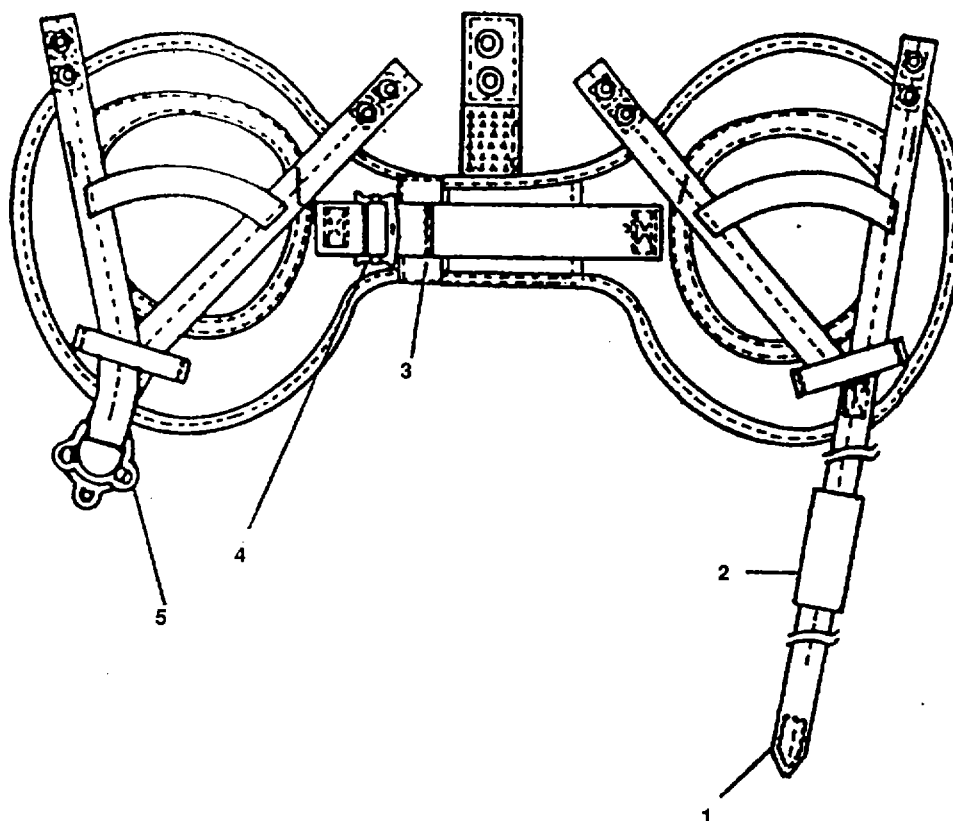

Figure 2-1. Chinstrap and Nape Strap
a. Chinstrap (Figure 2-1). The chinstrap (1) employs a double D-ring (5) for ease of tightening and loosening. A chinpad (2) allows added comfort. The length of the chinstrap allows for donning and doffing of the helmet without the need for repeated lacing through the D-rings.
b. Nape Strap (Figure 2-1). The nape strap features an adjustable hook-and-pile closure (3) for individual sizing and an adjustable buckle (4) to ensure a snug fit.